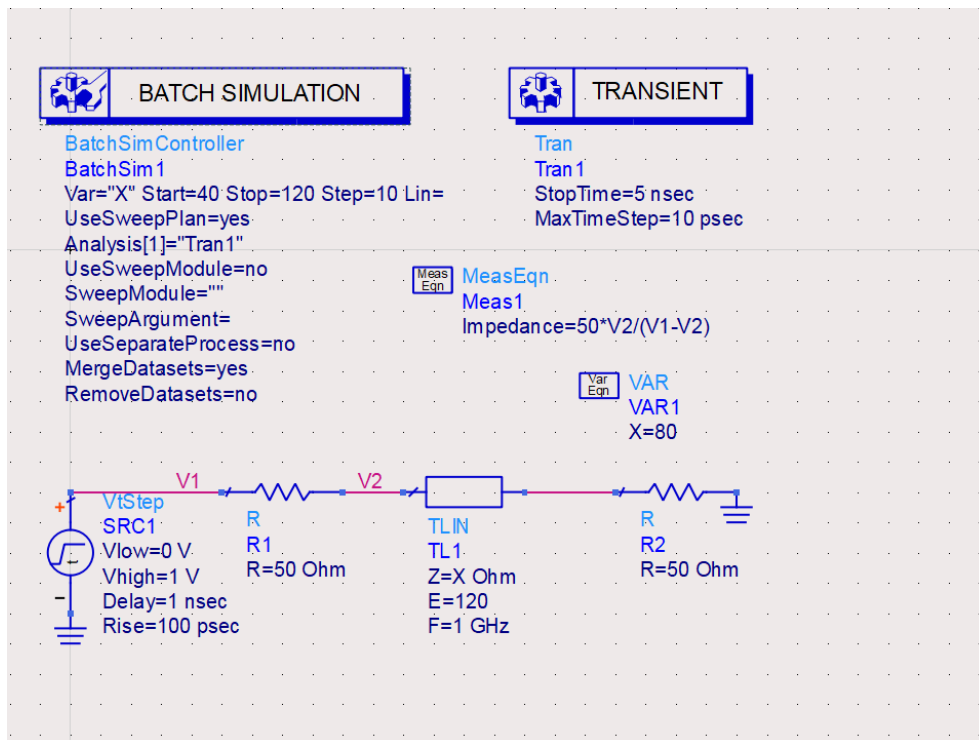

Figure 11: *Batch* Schematic.
1. Create a new schematic named "*Batch*". Draw the circuit with the given parameters as in Figure 11.